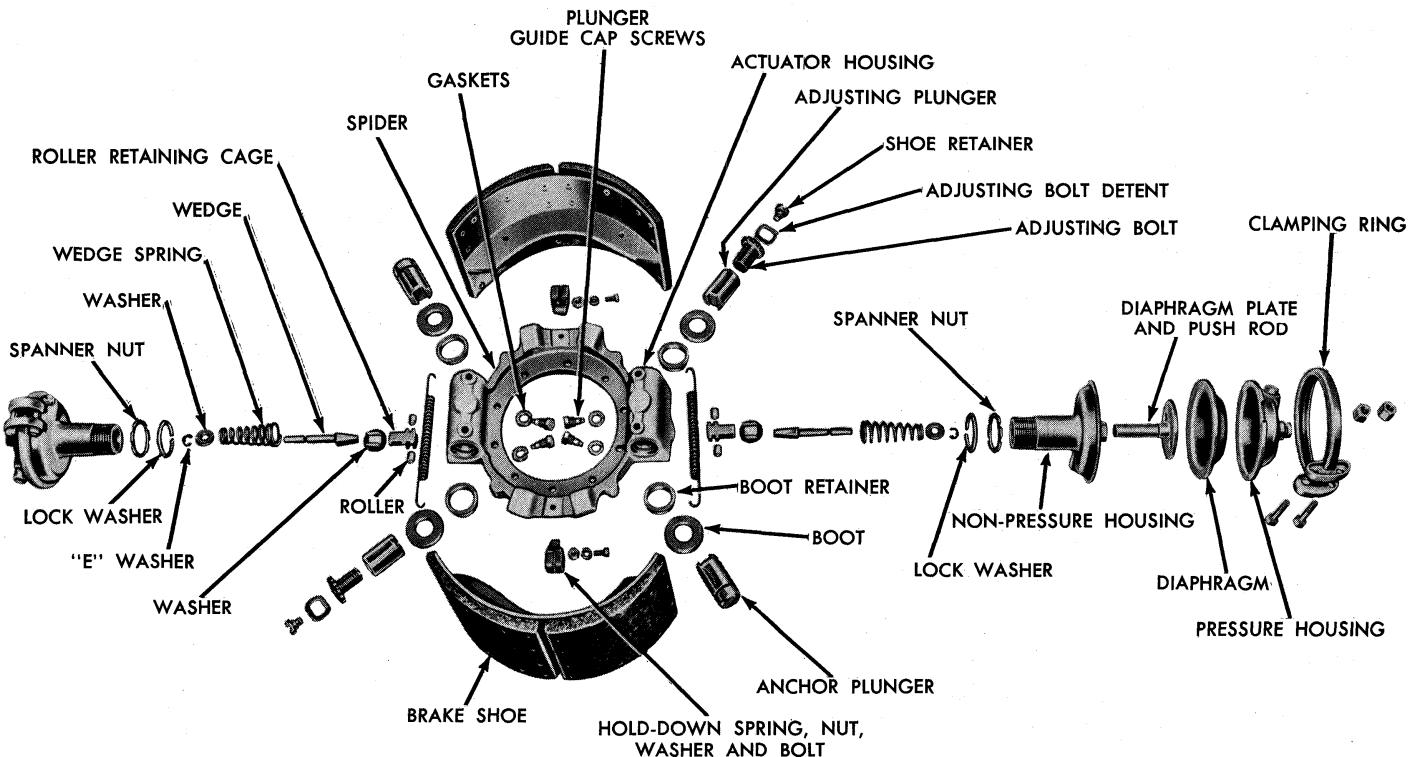

FIG. 23—Stopmaster Brake—Disassembled
4. Install the new diaphragm against the head of the diaphragm plate (Fig. 23). Secure the pressure housing to the non-pressure housing with the clamp ring and the two clamp ring bolts and nuts.
4. At each actuator housing, remove the wedge, roller, and spring assembly by pulling it straight out of the housing (Fig. 23).
tion of the adjusting plungers and the anchor plungers in Fig. 23.